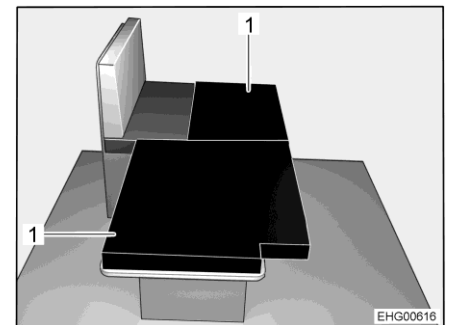

Fig. 52 After conversion
- Place the two additional cushions (Fig. 52,1) on the lowered table as shown in the image.